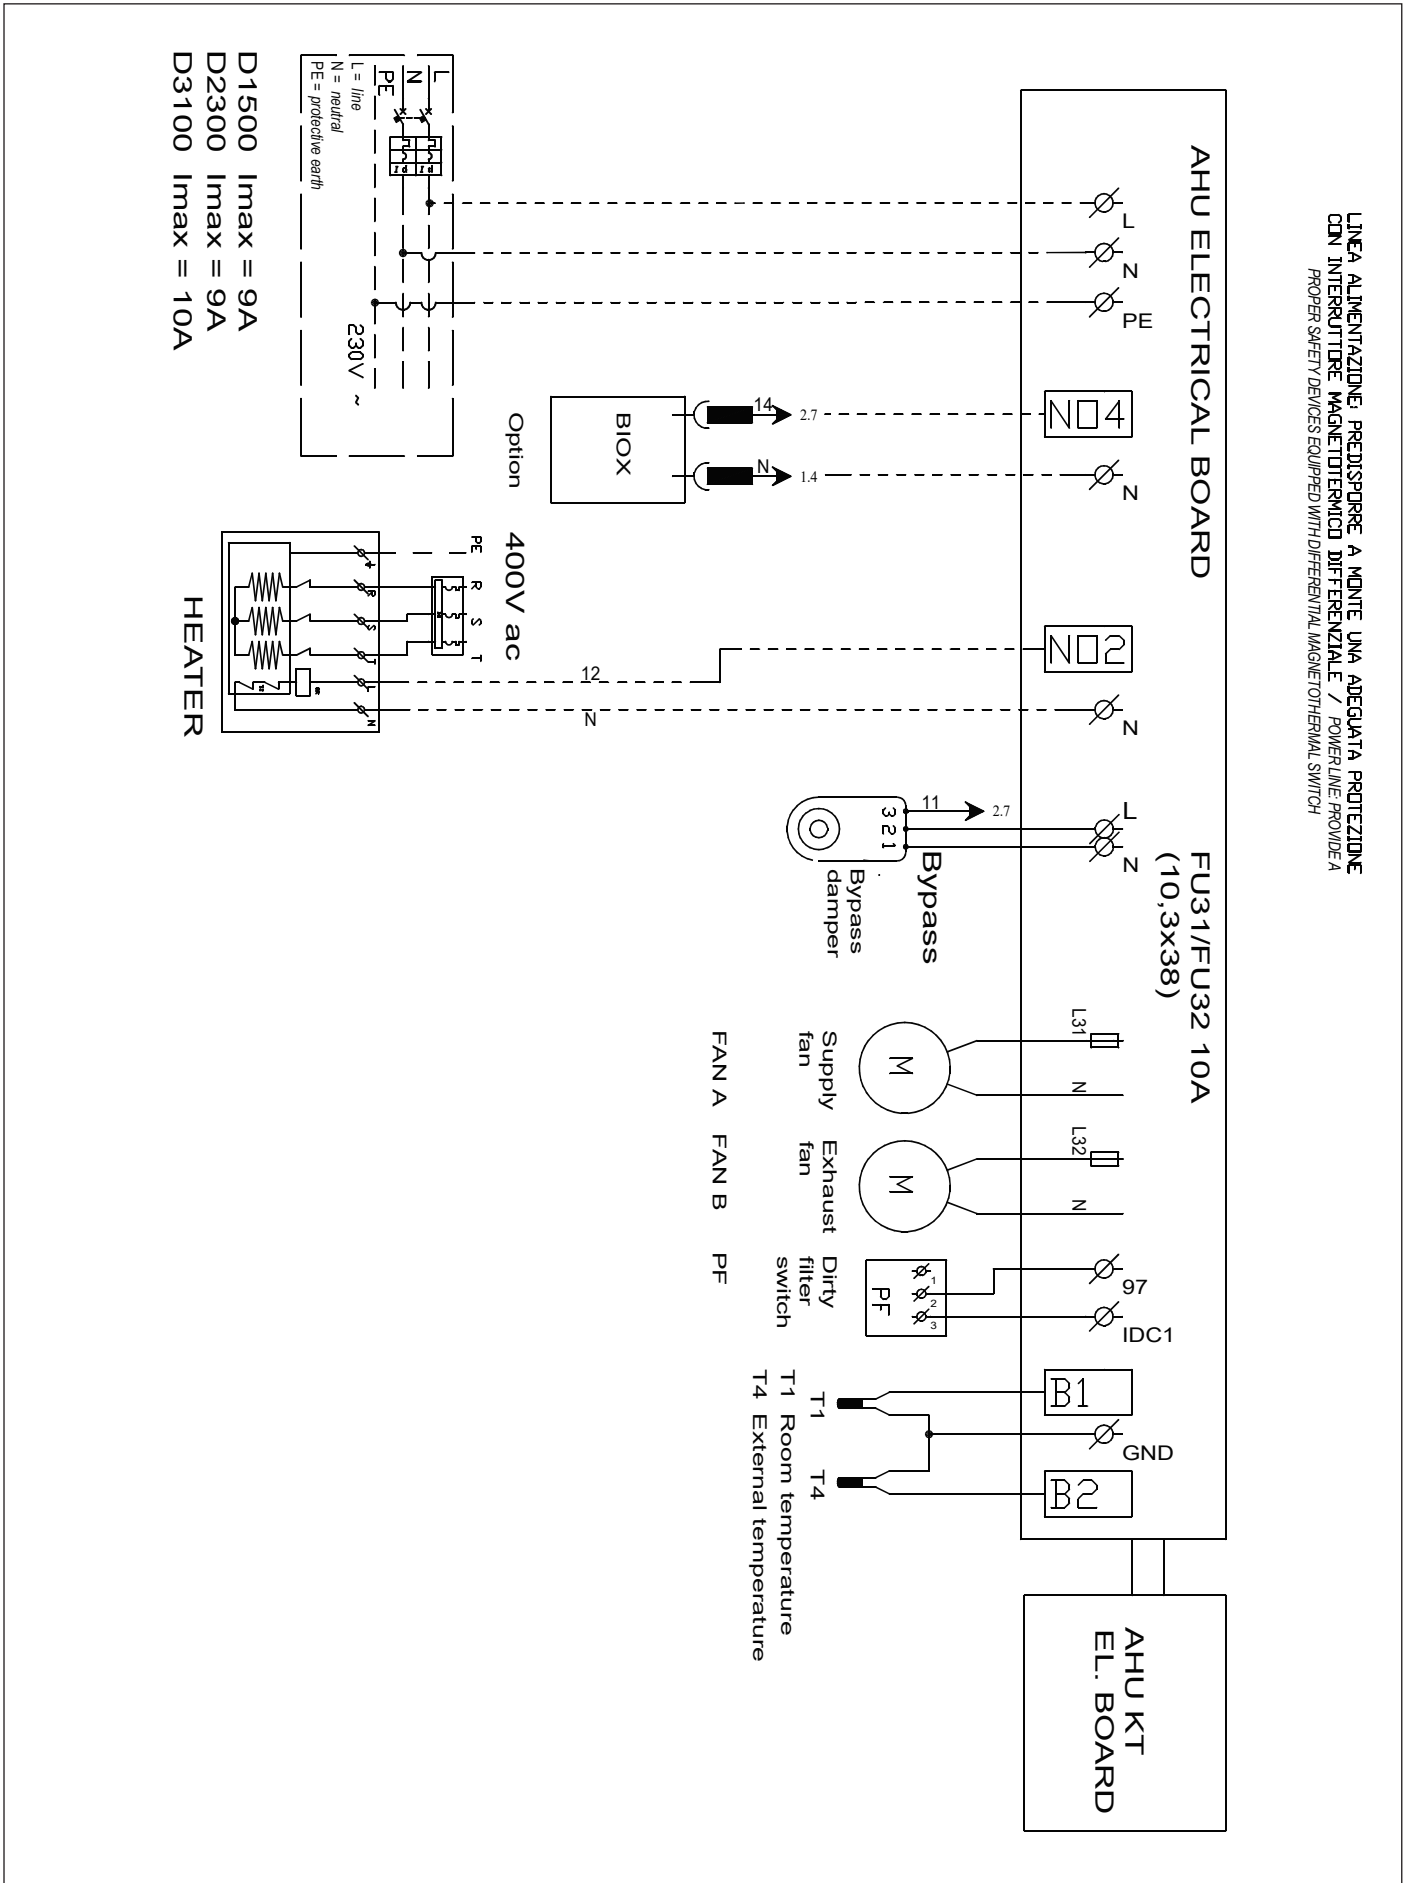

fig. 11
**SPECIFIC ELECTRICAL WIRING DIAGRAM ARE SUPPLIED WITH EACH UNIT (fig.11).